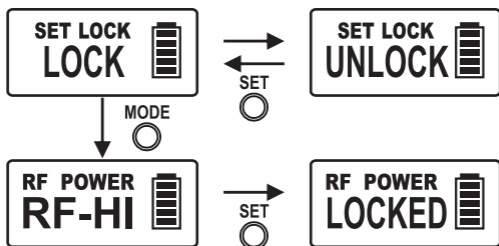

Fig. 13
7. LOCK Setting, Fig. 13:
- (A) LOCK can be changed to LOCK or UNLOCK.
- (B) Press MODE button to access LOCK parameter. Press SET button, the parameters start flashing. Press SET button again, the parameter will change circularly. Press MODE button to save or the parameter saves automatically when flashing stops.
- (C) LOCKED mode indicates power button cannot work and mute function is normal.
- (D) Repeat same procedures to change back to UNLOCK mode. UNLOCK mode indicates power is operational.